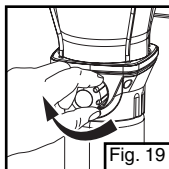

Fig. 19
■ Turn fuel valve off. (Fig. 19)